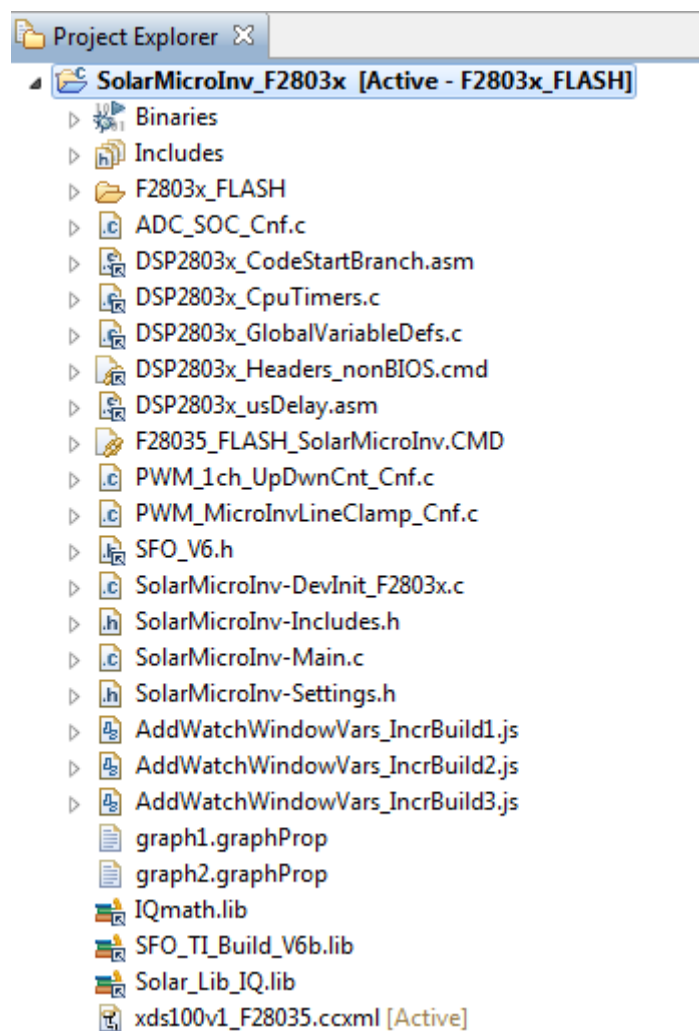

Figure 23. PV Inverter Project in C/C++ Tab
3. Figure 23 shows the project in the CCS C/C++ Project tab, and all the key files used in the project.